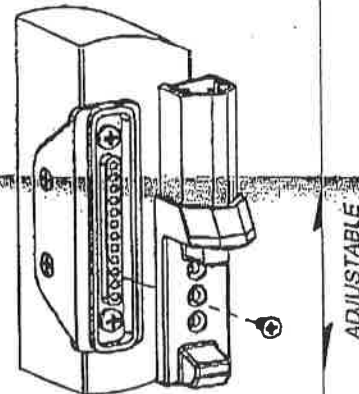

FIGURE 3
2.) Temporarily insert the Bottom Bracket and align the holes with the (3) countersunk holes at the bottom of the Main Body (Fig 3). With the latch at the proper height, mark the location on the post.
3.) Remove main body and attach the lower bracket with the supplied self-drilling screws: (2) flat head and (2) pan head.
2.) Align the holes of the Latch and the Bottom Bracket making sure that the overall latch height is maintained, and secure with (1) #8 flat head screw (Fig 3).